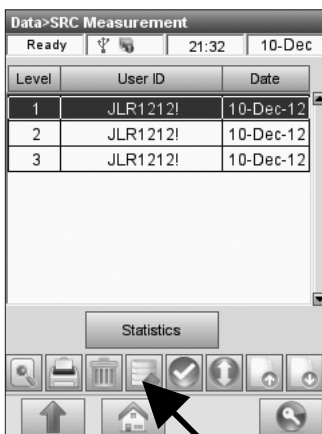

Fig. 6-31 Export Data
3. Select the data to be exported and press **<Export>** to start the data transfer (Fig. 6-31).